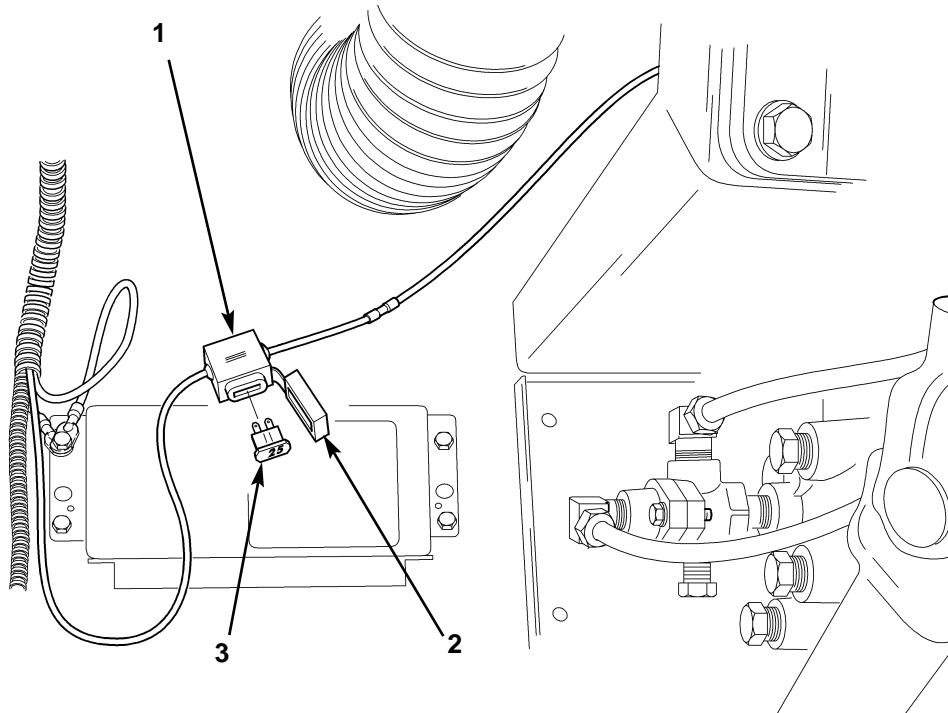

Figure 4. Installing ABS ECU 30-amp Fuse.
5. Install fuse (figure 4, item 3) on fuse connector (figure 4, item 1) and push cover (figure 4, item 2) on fuse connector (figure 4, item 1).